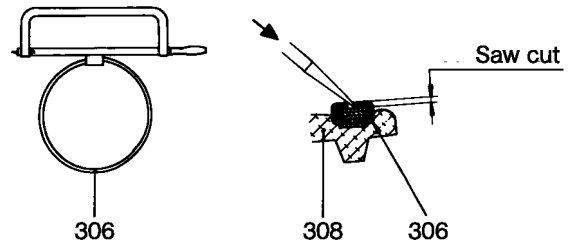

Figure 2: Removal of the clamping bands.
- Remove hexagon nuts (607) and serrated lock washers (608) as well as hexagon screws (606).
- Pull suction casing (505) over rotor (401) ensuring that the precision-machined rotor is not damaged.
- Remove suction casing gasket (501).
- Cut buckles on clamping bands (306) with a metal saw, and with a screw driver, press out to both sides. Remove clamping bands (306) from the cover sleeve (308) (please refer to Figure 2 below).